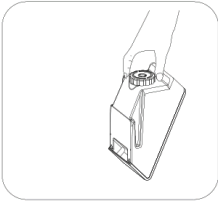

Fig. 10
- It up with water after the army, with a clean towel to clean the toilet outside the water tank on the well-being of : will. (in figs 10 and 11)